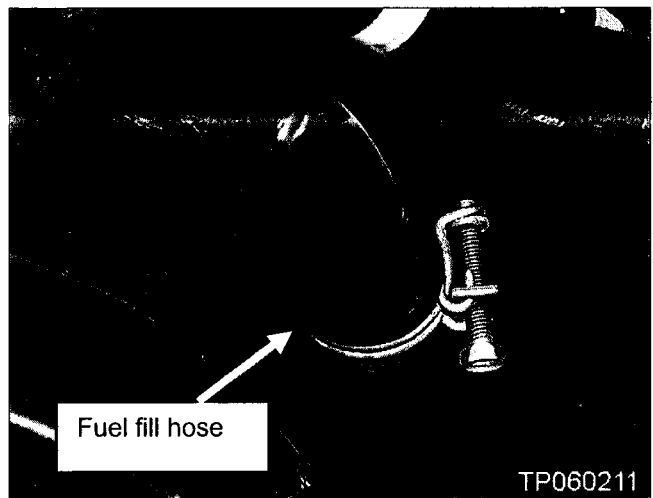

Figure 54
- Disconnect at the point shown in Figure 54.